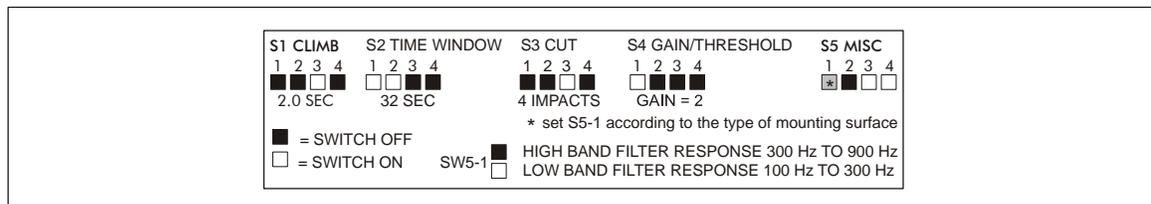

Figure 27: Recommended switch settings
1. Begin by setting the switches as indicated in Figure 27:
With the switches set as illustrated in Figure 27:, the Climb time is 2 seconds and the Time Window is 32 seconds. Therefore, if there is 2 seconds of sustained attack activity within a 32 second period, the processor signals a Climb alarm. If the security regulations at your facility do not define a specific Climb time and Time Window, then these parameters should be set according to the possibility of nuisance alarms occurring in a specific timeframe. Once the Climb Alarm parameters are set, monitor the system for nuisance alarms. If nuisance alarms occur, determine the source of the nuisance alarms and either correct the source, or adjust the Climb Alarm parameters to ignore the source (i.e., extend the Climb time, extend the Time Window).
With the switches set as illustrated in Figure 27:, the Cut Count is 4 impacts and the Time Window is 32 seconds. If the security regulations at your facility do not define specific Cut Count and Time Window settings, then these parameters should be set according to the probability of nuisance impacts occurring within a specific timeframe. For example, if nuisance impacts can occur, but never in rapid succession, then the Cut Count can be set to 2 with a short Time Window (e.g., 8 seconds). If nuisance impacts should never occur, an impact count of 1 can be used so that an intruder cannot defeat the system by waiting between impacts. Once the Cut Alarm parameters are set, monitor the system for nuisance alarms. If nuisance alarms occur, determine the source of the nuisance alarms and either correct the source, or adjust the Cut Alarm parameters to ignore the source (i.e., extend the Time Window, increase the Cut Count).